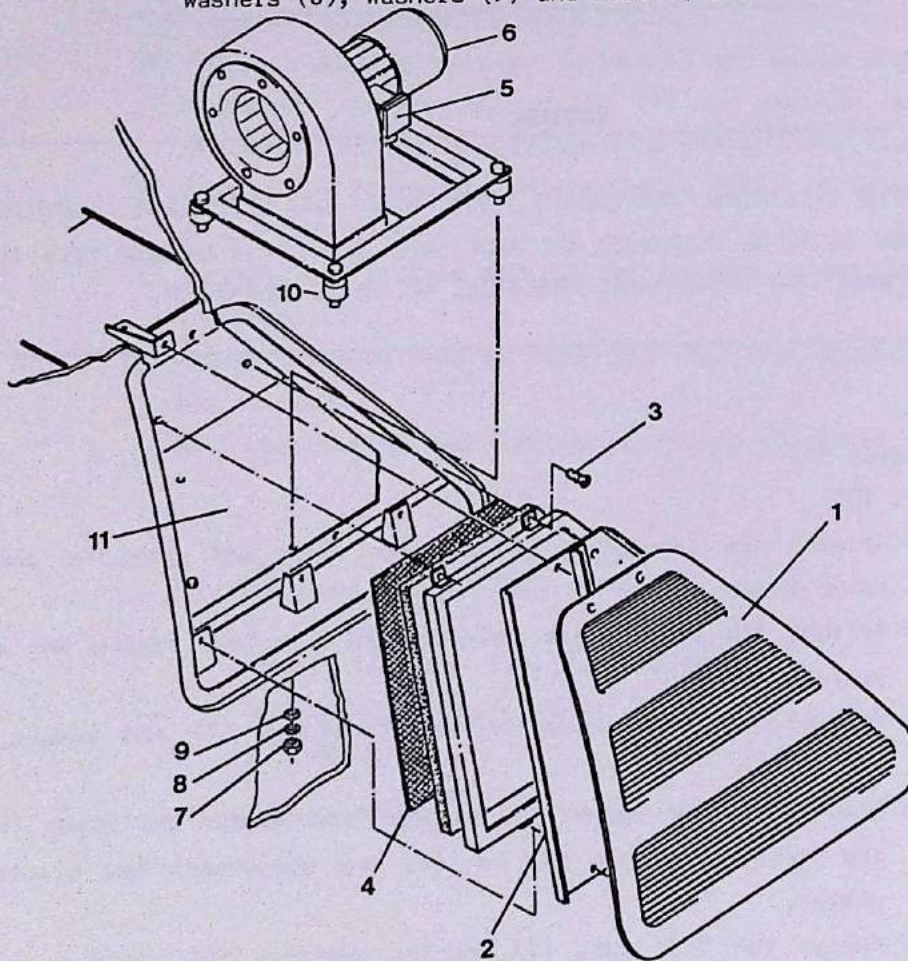

Fig. 503
**(1) Removal****Fig. 503**
- (a) Release the two quick release fasteners and open the access cover (1).
- (b) Release the three quick release fasteners and remove the rain protector (2).
- (c) Release the four quick release fasteners (3) and remove the filter (4).
- (d) Remove the four screws and washers that attach the cover (5) of the junction box to the fan (6) and disconnect the electrical cables.
- (e) Remove the four nuts (7), spring washers (8), washers (9) and bolts (10) securing the fan (6) and tray to the special box.